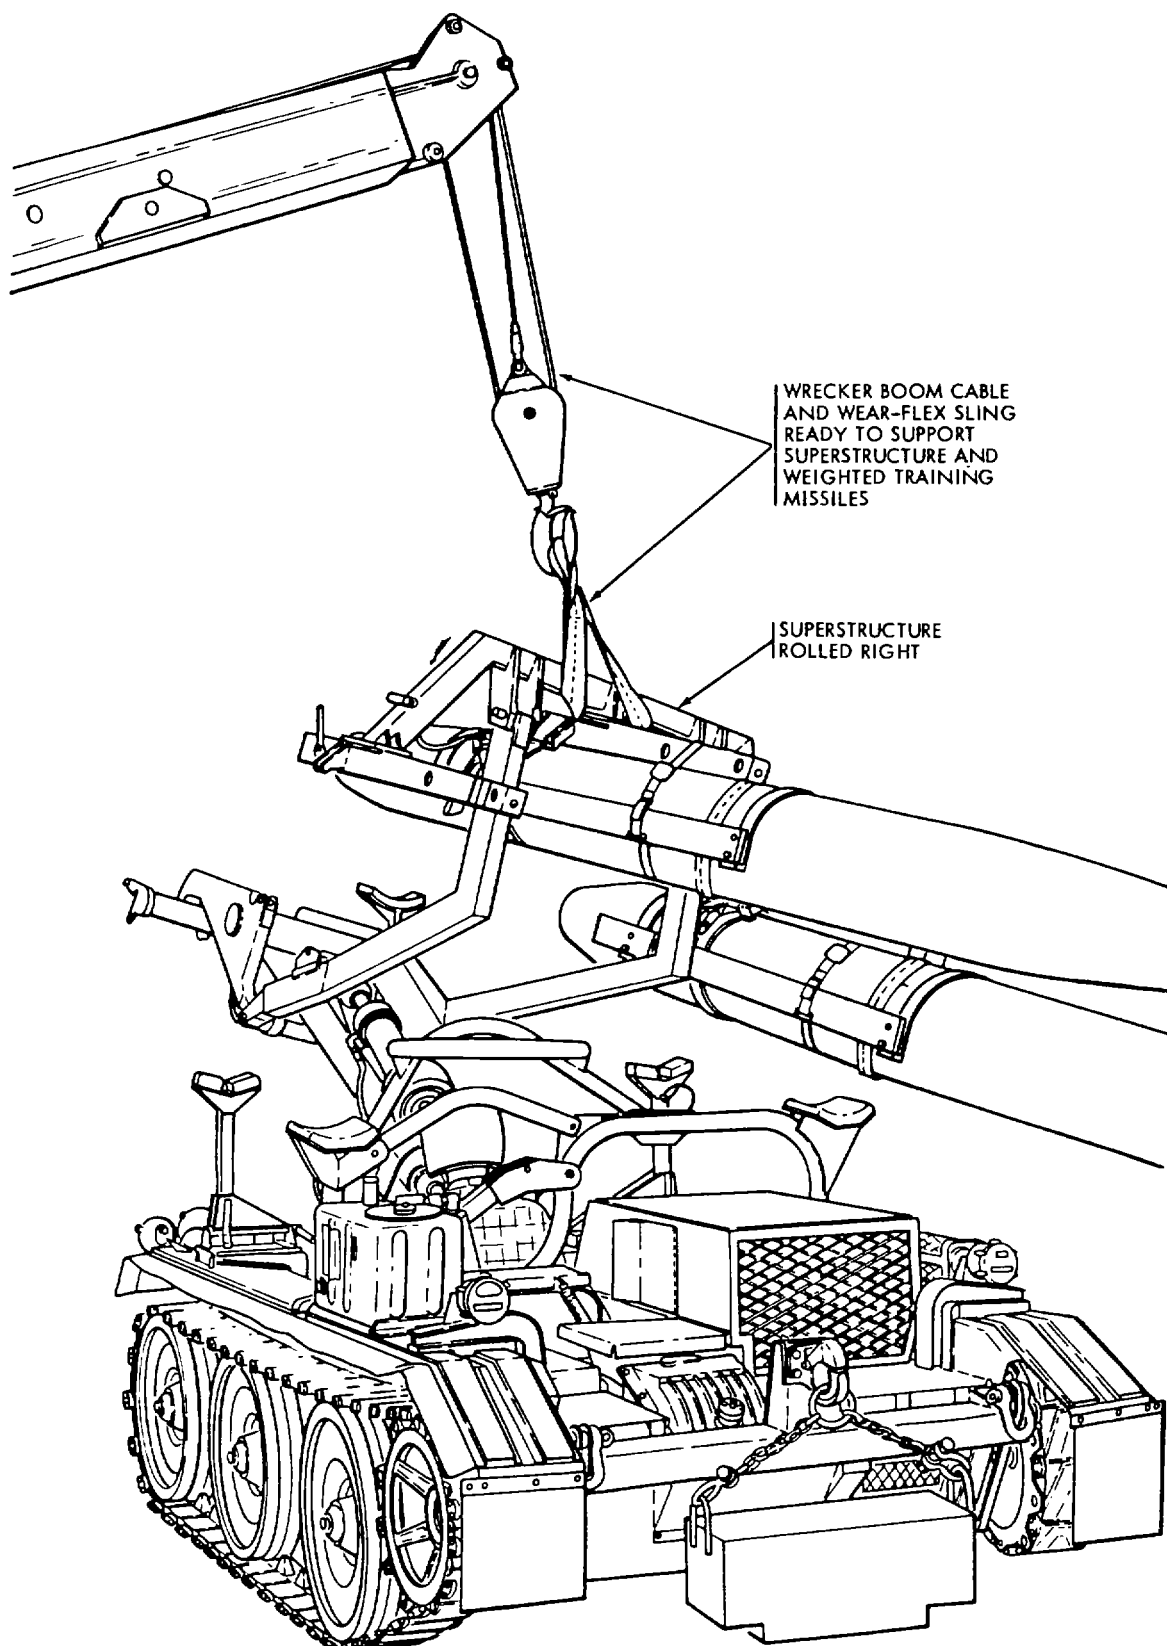

Figure 6-22. Roll Test
(16) Elevate missiles enough to permit roll motions, then roll missiles fully right (figure 6-22).
(17) Repeat for two cycles, then return to center. Align index marks as shown in TM 9-1450-500-10.
(18) Remove sling from wrecker hook and loader superstructure. Remove wrecker from location.
(19) Index loader to missile pallet and transfer missiles onto pallet.
(20) Remove all straps, latch missiles to pallet, release loader missile latches, and retract superstructure.